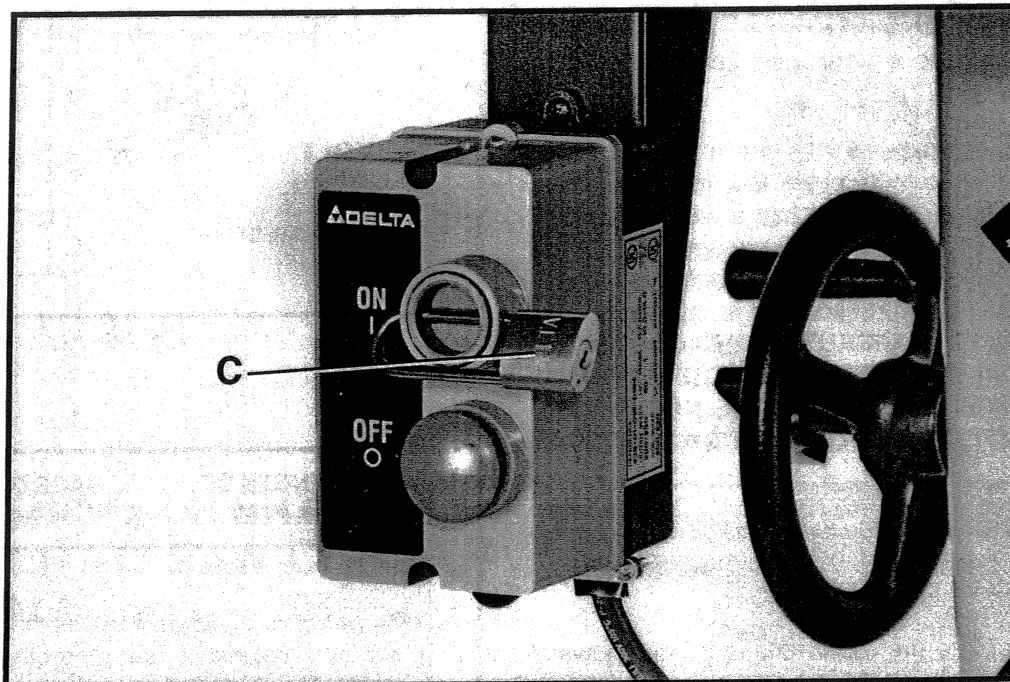

Fig. 63
IMPORTANT: We suggest that when the saw is not in use, the switch be locked in the "OFF" position using a padlock (C) Fig. 63, through the switch plate and start button as shown.